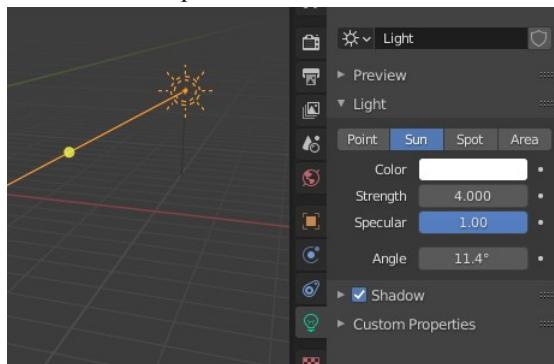

Figure 2-14 Sun settings
5. Change the light from a point source to a "Sun." Select the light object either in the 3D Viewport or the Outliner Editor area. The default light is named "Light" and its type is Point, so click the Object Data Properties tab (the green lightbulb in Figure 2-14). Under Light, select **Sun** and change the power to **4.0 W/m²**. Rotate the direction of the sun to be more horizontal using **R** in the 3D Viewport.